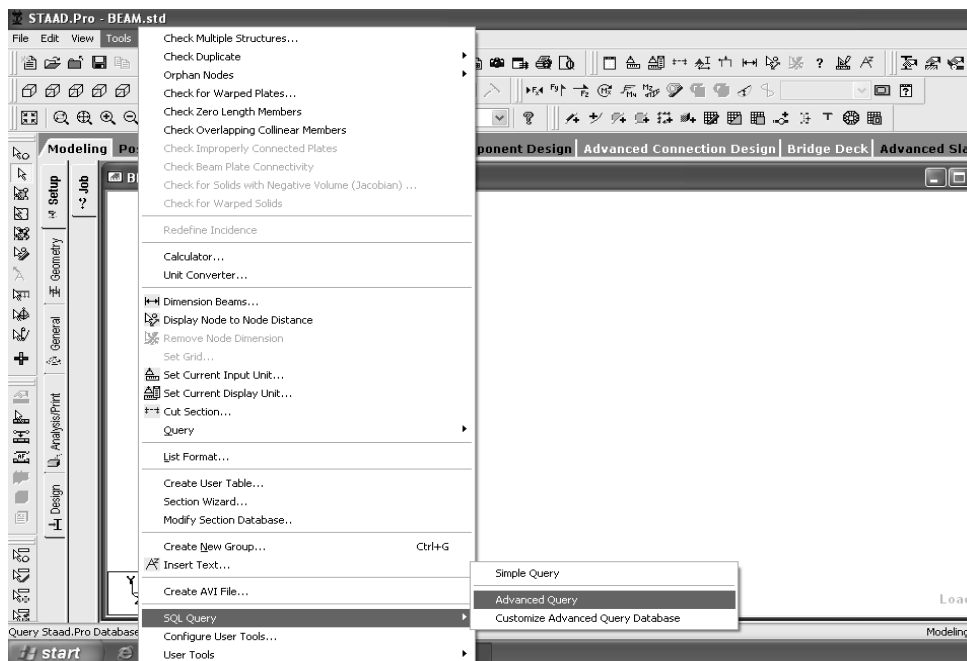

Fig.8.1.2
- Select Tools >SQL Query>Advanced Query for STAAD Pro version 2006 & higher (fig.8.1.2).